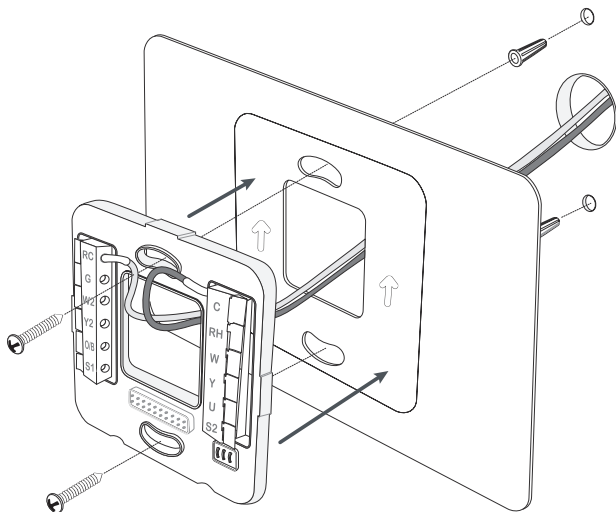

Figure 2 : Wiring connection and back plate attachment (optional trim plate shown).
If you are replacing an existing thermostat, you have the option of using the provided Wisier Air trim plate. If the hole left by the removal of the existing unit is larger than the back plate of the Wisier Air thermostat, use the optional trim plate. Run the wires and anchor the mounting screws through it while attaching the back plate to the wall (Fig. 2). Make sure to attach the trim plate with the central hole oriented upward.
10. Attach the Wiser Air back plate to the wall using the provided screws in the mounting holes in the top and bottom (Fig. 2).